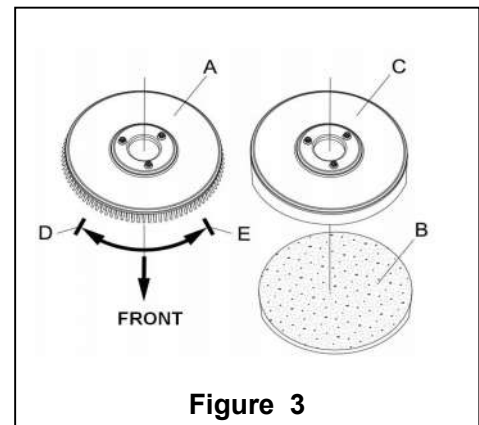

Figure 3
According to the type of floor to be cleaned, the machine may be installed with brush (Figure 3, A), or a pad-holder (Figure 3, B and C).
1. (Only applicable to **AS430C** and **AS510C**): make sure the power cable (9) disconnecting the power supply and the power switch (38) is at the disconnecting (**O**) condition.
2. Press down the handlebar (2) to lift the tank body (26).
3. Put the brush (A) or the pad-holder (B – C) under the case.
4. Use the handlebar (2) to lower the tank body (26) to come into contact with the brush or pad-holder.
5. To install the brush/pad-holder automatically, turn the power switch (38) to the “I” position and press down the safety switch (1). Gently push the machine forward so as to allow the belt wheel at the bottom of the tank body to align with the brush or pad-holder which can then be installed. Then release the safety switch. If necessary, repeat this procedure until the brush/pad-holder is installed.
6. If Step 5 above proves to be difficult, use the manual method by following the arrow head (D) to install the brush/pad-holder (as shown in **Figure 3**).
7. To automatically unload the brush/pad-holder, turn the power switch (38) to the “O” position. Use the hand to hold the handlebar, and press the machine downwards until the guide wheel touches the floor and the brush/pad-holder hangs in the air. Turn the power switch (38) to the “I” position, and press down the safety switch to let the brush or pad-holder turn until the brush/pad-holder drops to the floor.
8. If Step No. 7 above proves to be difficult, use the manual method by turning the brush/pad-holder in the direction opposite to the normal turning direction, and it can be taken off. (as shown in **Figure 3**)